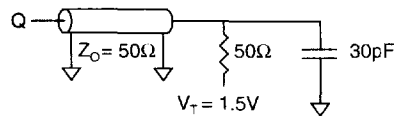

Fig. 1 OUTPUT LOAD EQUIVALENT
Output load	See Figures 1 and 2
- Test conditions as specified with the output loading as shown in Fig. 1 unless otherwise noted.
- Output loading is specified with C_L = 5pF as in Fig. 1. Transition is measured ±500mV from steady state voltage.